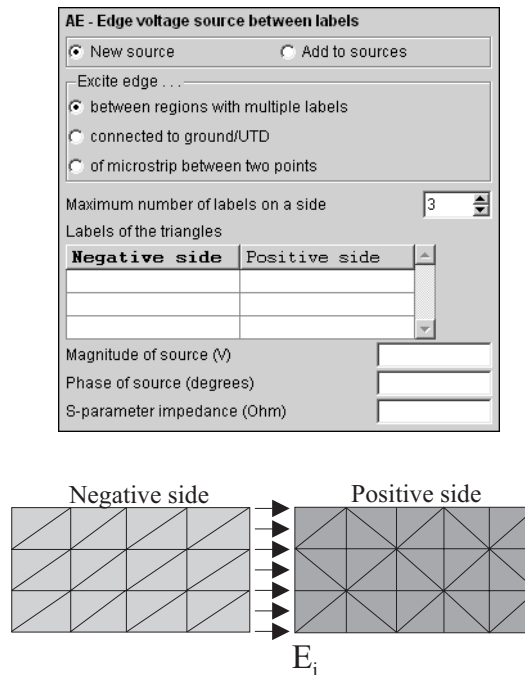

Figure 14-4: Example of the use of the AE card.
This card specifies an excitation at an edge between triangular surface elements similar to the A7 card, but the AE card has the advantage that the location of the feed point and the positive feed direction are substantially easier to specify. In addition it is possible to specify a feed edge which contains a number of triangle edges as shown in Figure 14-4.
- *between regions with multiple labels:* The excitation is placed on the edge between the regions with labels specified in *Negative side* and *Positive side*. Use the field *Maximum number of labels on a side* to increase the number of rows available in the table. The positive source direction is from the *Negative side* towards the *Positive side* side (see Figure 14-4).